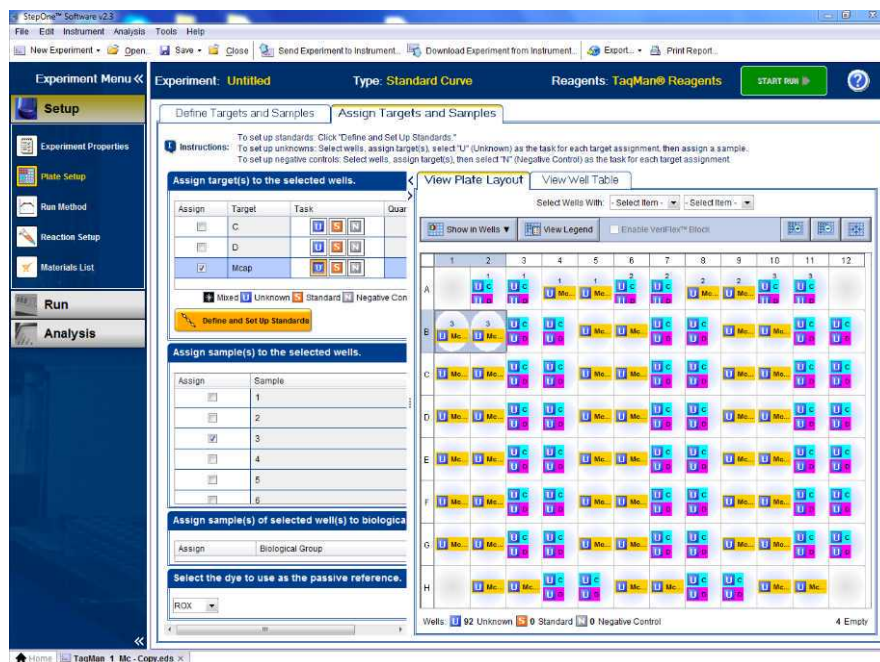

Figure 3. Assigning targets and samples.
- Now click on the tab "Assign Targets and Samples". You will assign targets and samples to each well (**Figure 3**). Highlight the well with your mouse and then check the box next to the target (both) and the sample name. You can highlight all the wells and assign targets at once, and do the sample names individually.